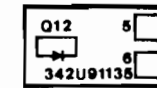

Fig. 3-62 A15 LED PC Board Parts Layout **26**
3. A15 LED (Fig. 3-62, **26**)